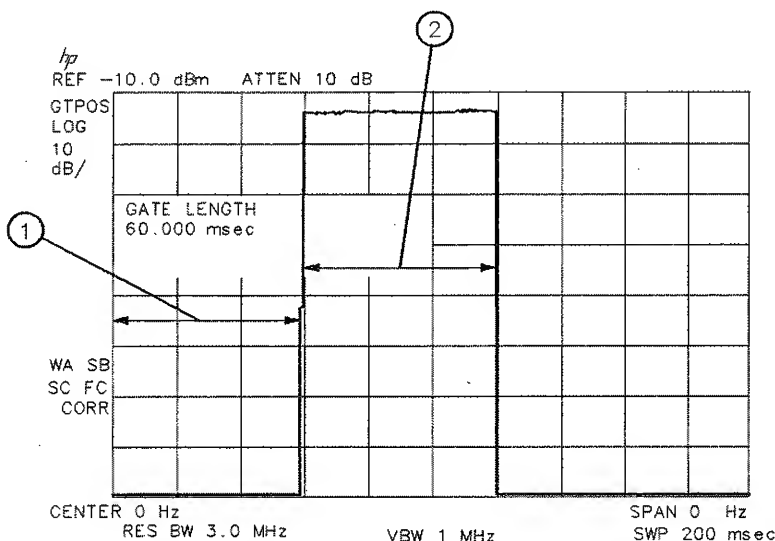

Figure 4-32. Gate On
3. Press **Previous Menu**, **GATE ON OFF** (so that ON is underlined). See Figure 4-32.
Item	Description of Items in Figure 4-32